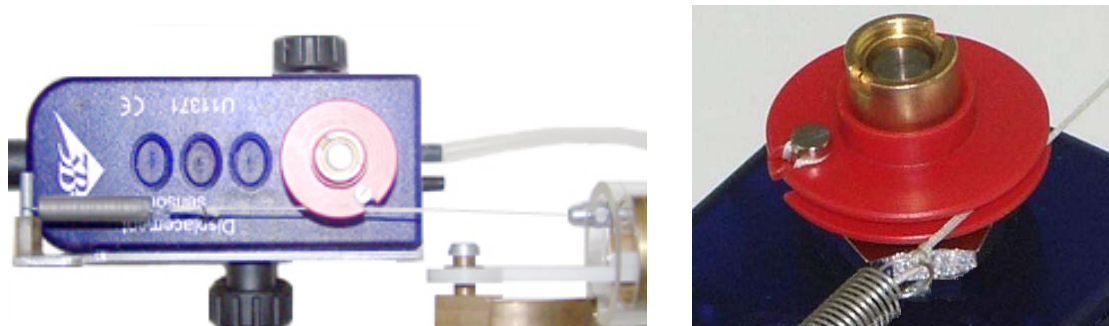

Fig. 2 Attachment of the thread to displacement sensor pulley
- Wrap the thread around the displacement sensor's pulley as in Fig. 2.